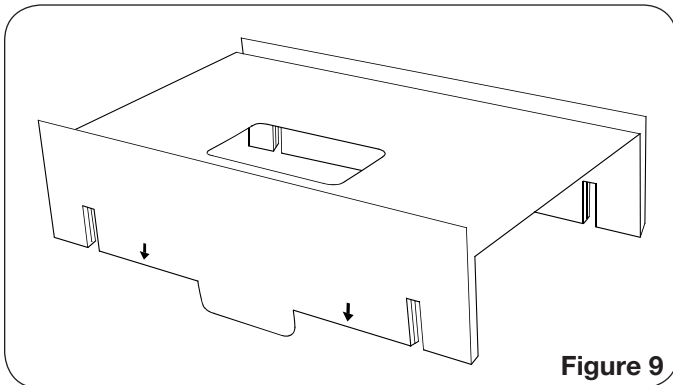

Figure 9
9. Turn over so arrows are on front (Figure 9).